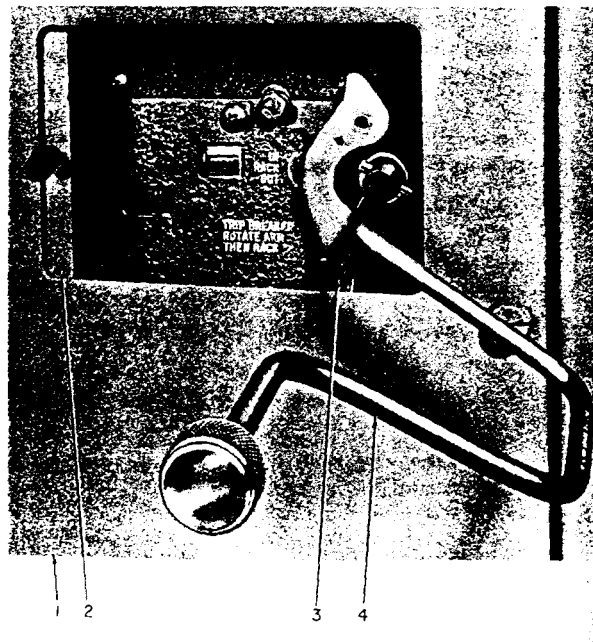

Fig. 5—Method of Racking Circuit Breaker
F. RACKING CIRCUIT BREAKER TO "CONNECTED" POSITION (See Fig. 5)
1. Close compartment door (1) and open sliding panel (2).
2. Rotate unlocking lever (3) clockwise and rotate the racking crank (4) clockwise approximately 1/4 turn and release unlocking lever. Continue cranking until the racking mechanism automatically stops at "CONNECTED" position.
G. MANUAL CLOSING OPERATION (See Fig. 5)
A. REMOVING CIRCUIT BREAKER (See Fig. 5)